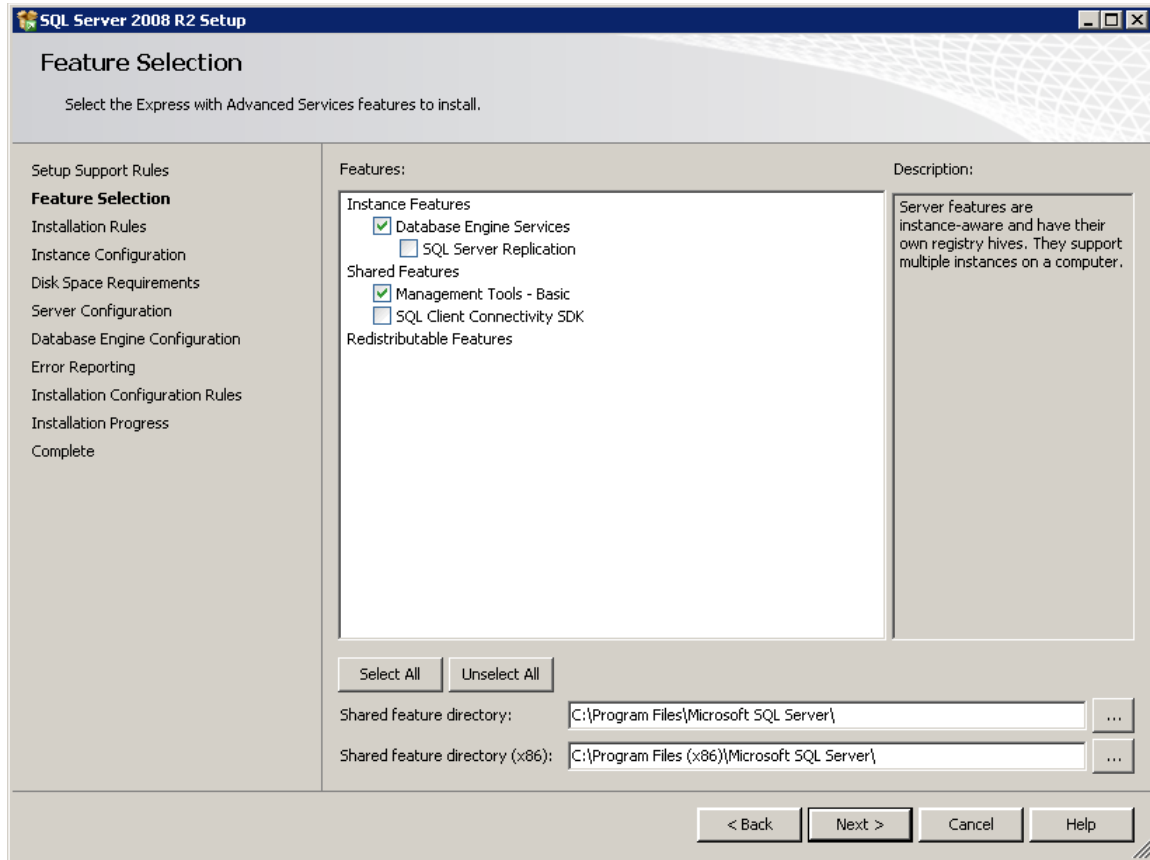

Figure 2-4 SQL Server 2008 R2 Setup – Feature Selection
10. *Feature Selection*: Select the following features: *Database Engine Services* and *Management Tools - Basic* (Figure 2-4). Click the *Next* button.